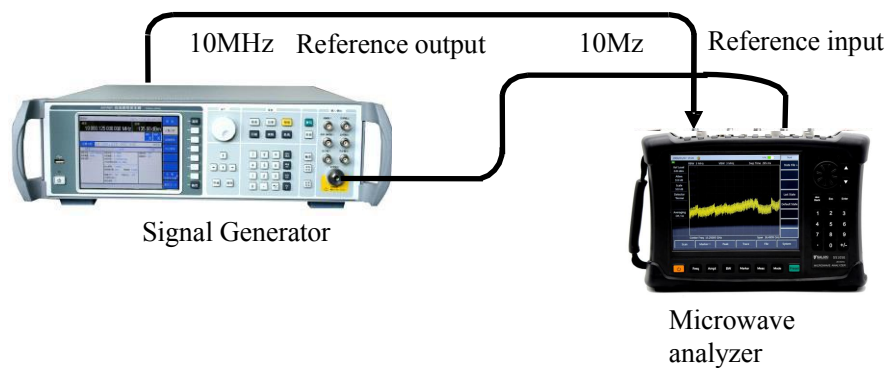

Figure 5-14 Improving the frequency measurement accuracy system connection
- a) Connect the output of the signal generator to the spectrum input port of the microwave analyzer via a cable, and connect the 10MHz reference signal output of the signal generator to the external reference input of the microwave analyzer with a BNC cable as shown in Figure 5-14: